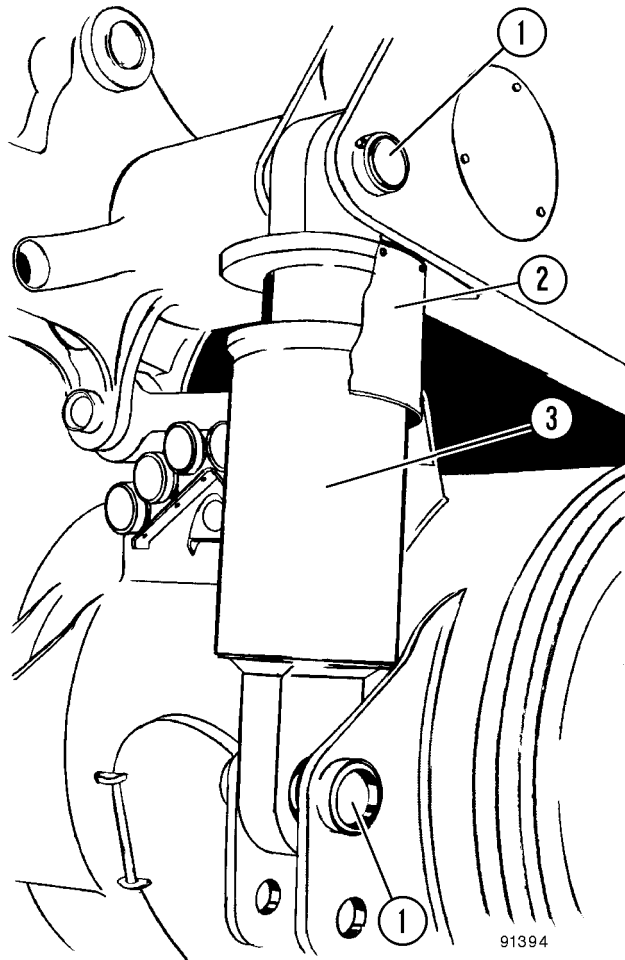

FIGURE 3-1. REAR SUSPENSION INSTALLATION
1. Remove capscrews, washers, and metal shield (2, Figure 3-1) from the suspension.